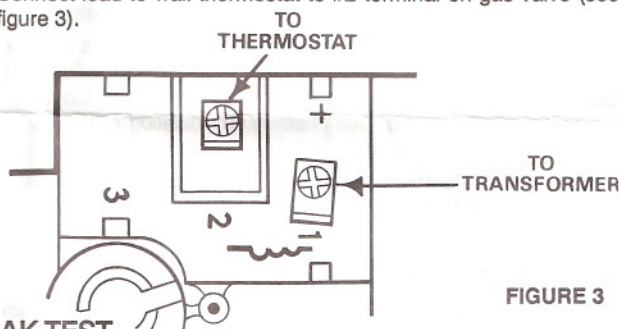

FIGURE 3
- Connect lead from transformer to #1 terminal on the gas valve (see figure 3).
- Connect lead to wall thermostat to #2 terminal on gas valve (see figure 3).